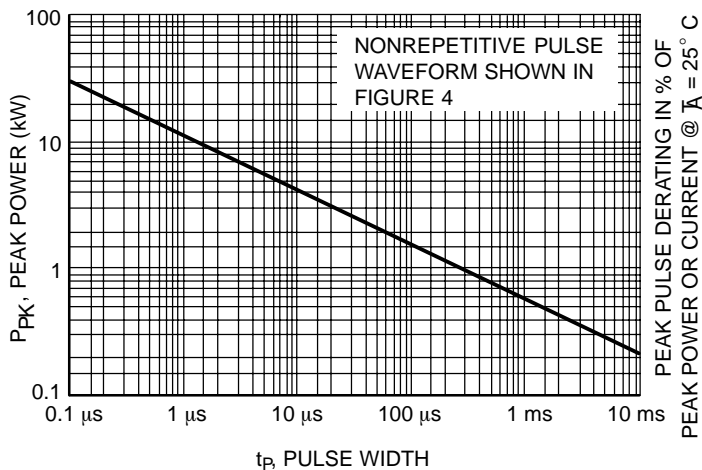
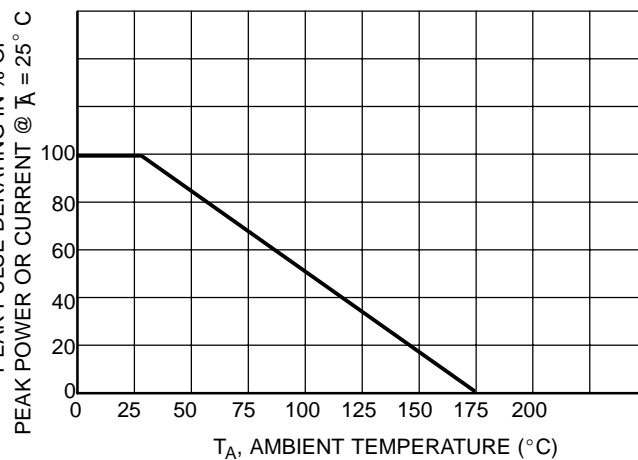
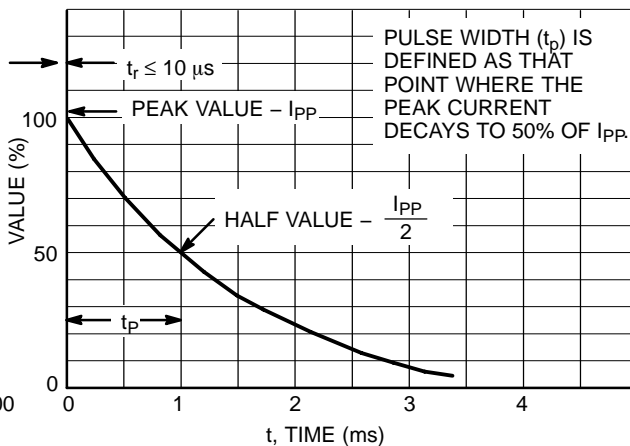
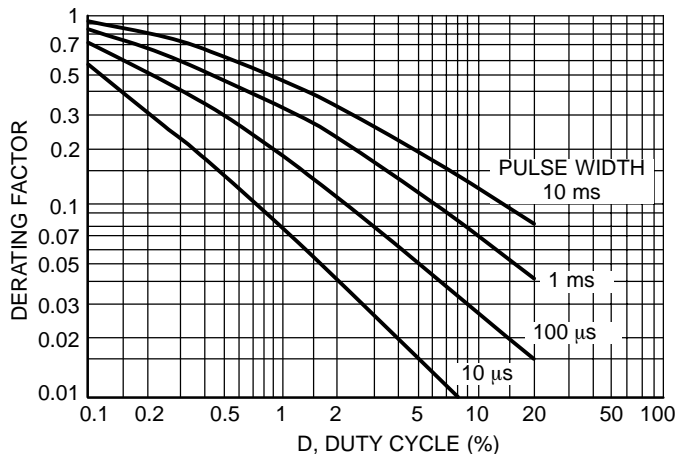

Figure 1. Pulse Rating Curve
Figure 2. Pulse Derating Curve
Figure 4. Pulse Waveform
Figure 6. Typical Derating Factor for Duty Cycle
1. Nonrepetitive current pulse per Figure 4 and derated above  $T_A = 25^\circ\text{C}$  per Figure 2.
5. Surge current waveform per Figure 4 and derate per Figures 1 and 2.
The data of Figure 1 applies for non-repetitive conditions and at a lead temperature of 25°C. If the duty cycle increases, the peak power must be reduced as indicated by the curves of Figure 6. Average power must be derated as the lead or ambient temperature rises above 25°C. The average power derating curve normally given on data sheets may be normalized and used for this purpose.
At first glance the derating curves of Figure 6 appear to be in error as the 10 ms pulse has a higher derating factor than the 10 μs pulse. However, when the derating factor for a given pulse of Figure 6 is multiplied by the peak power value of Figure 1 for the same pulse, the results follow the expected trend.